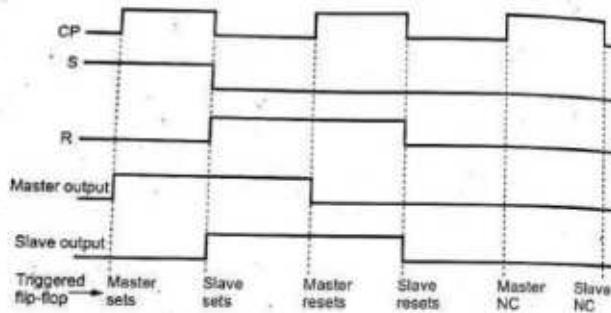

Fig. 5.4.24 Input and output waveforms for master-slave flip-flop
- Fig. 5.4.24 illustrates the operation of the master-slave flip-flop.